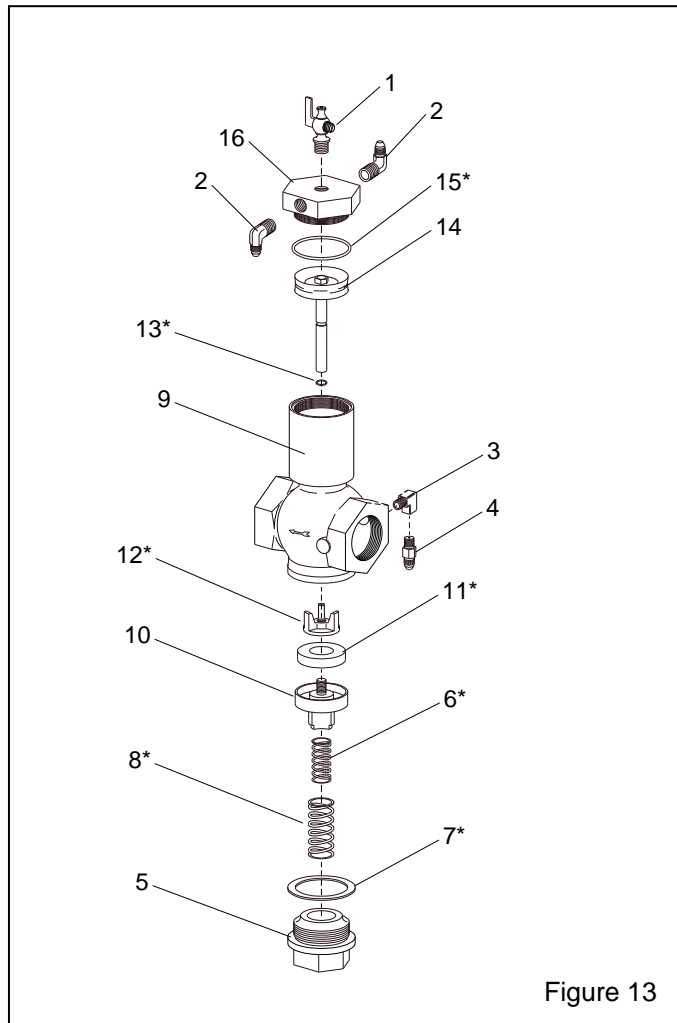

Figure 13
7.6 1-1/2" Inlet Valve, Figure 13